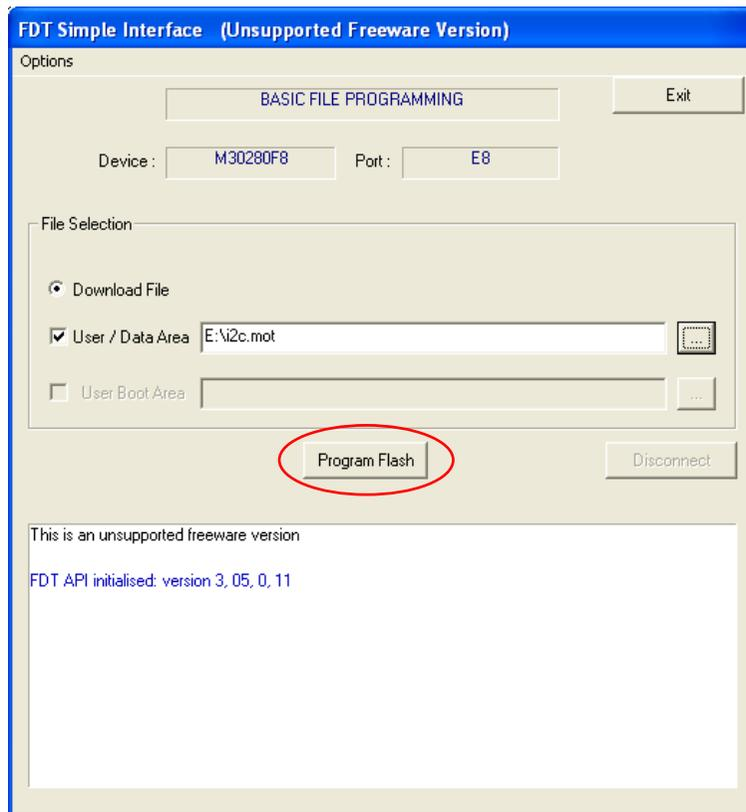

Figure 84:
10. Select "Program Flash" (Figure 84).